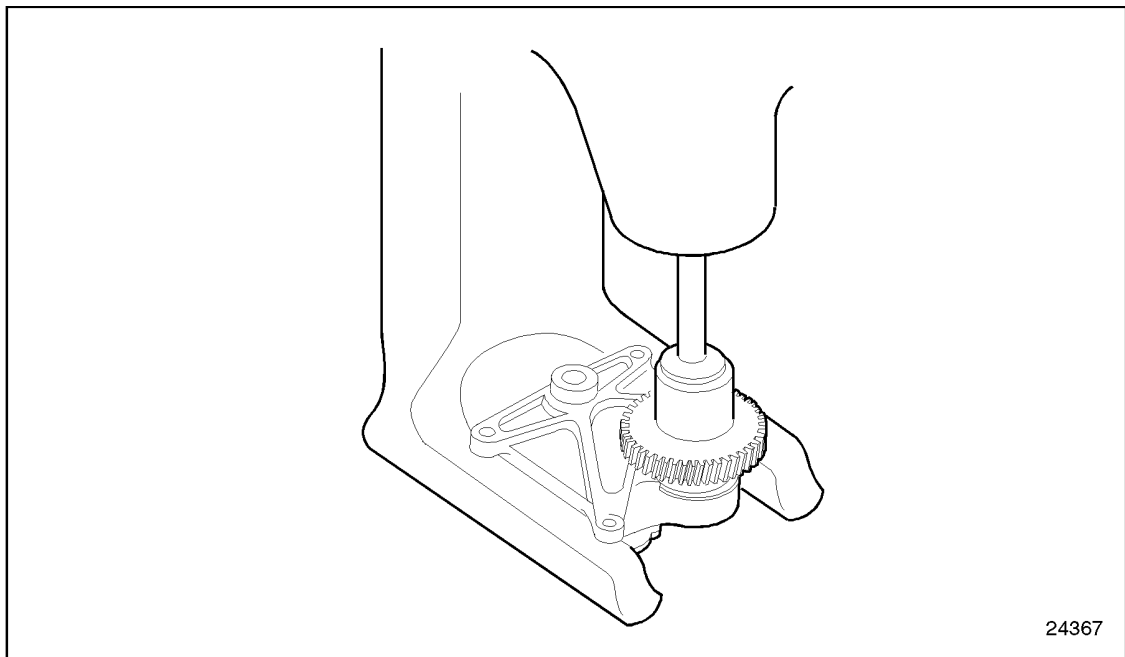

Figure 3-8 Oil Pump Drive Gear Installation
6. Press the drive gear onto the shaft with timing mark side outside until a clearance of 1.00 mm (0.039 in.) is obtained between the inner face of the gear and the pump body. See Figure 3-8.